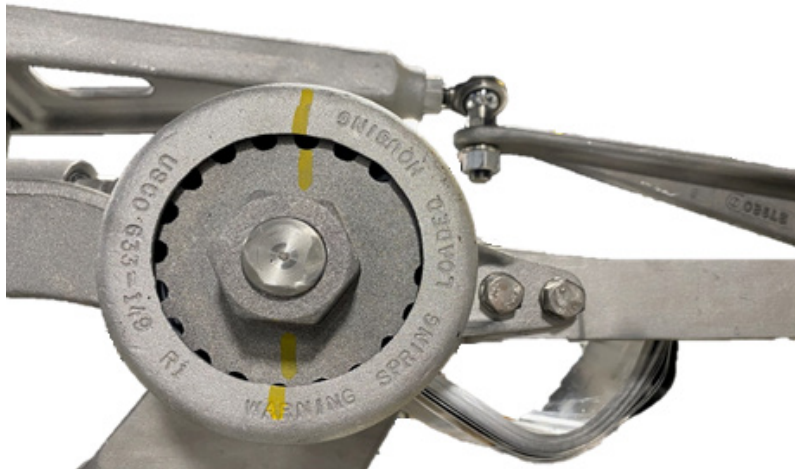

Figure 21. AVR Counterbalance initial installation mark
11. Mark the initial installation point of the Adjustment Plate by putting a mark across the Adjustment Plate and Cover (Figure 21).